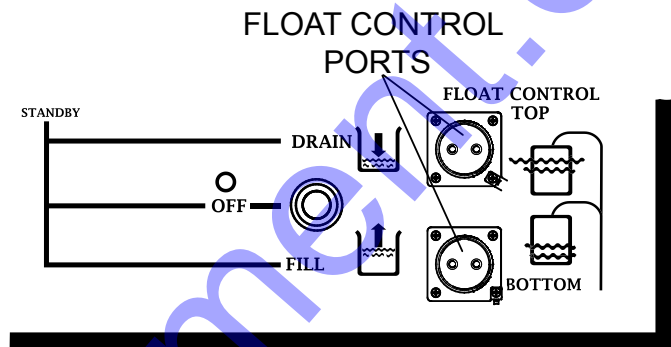

Figure 13. Float Control Ports
2. Connect the terminal plugs of float switches to the float control ports on the control panel (Figure 13)